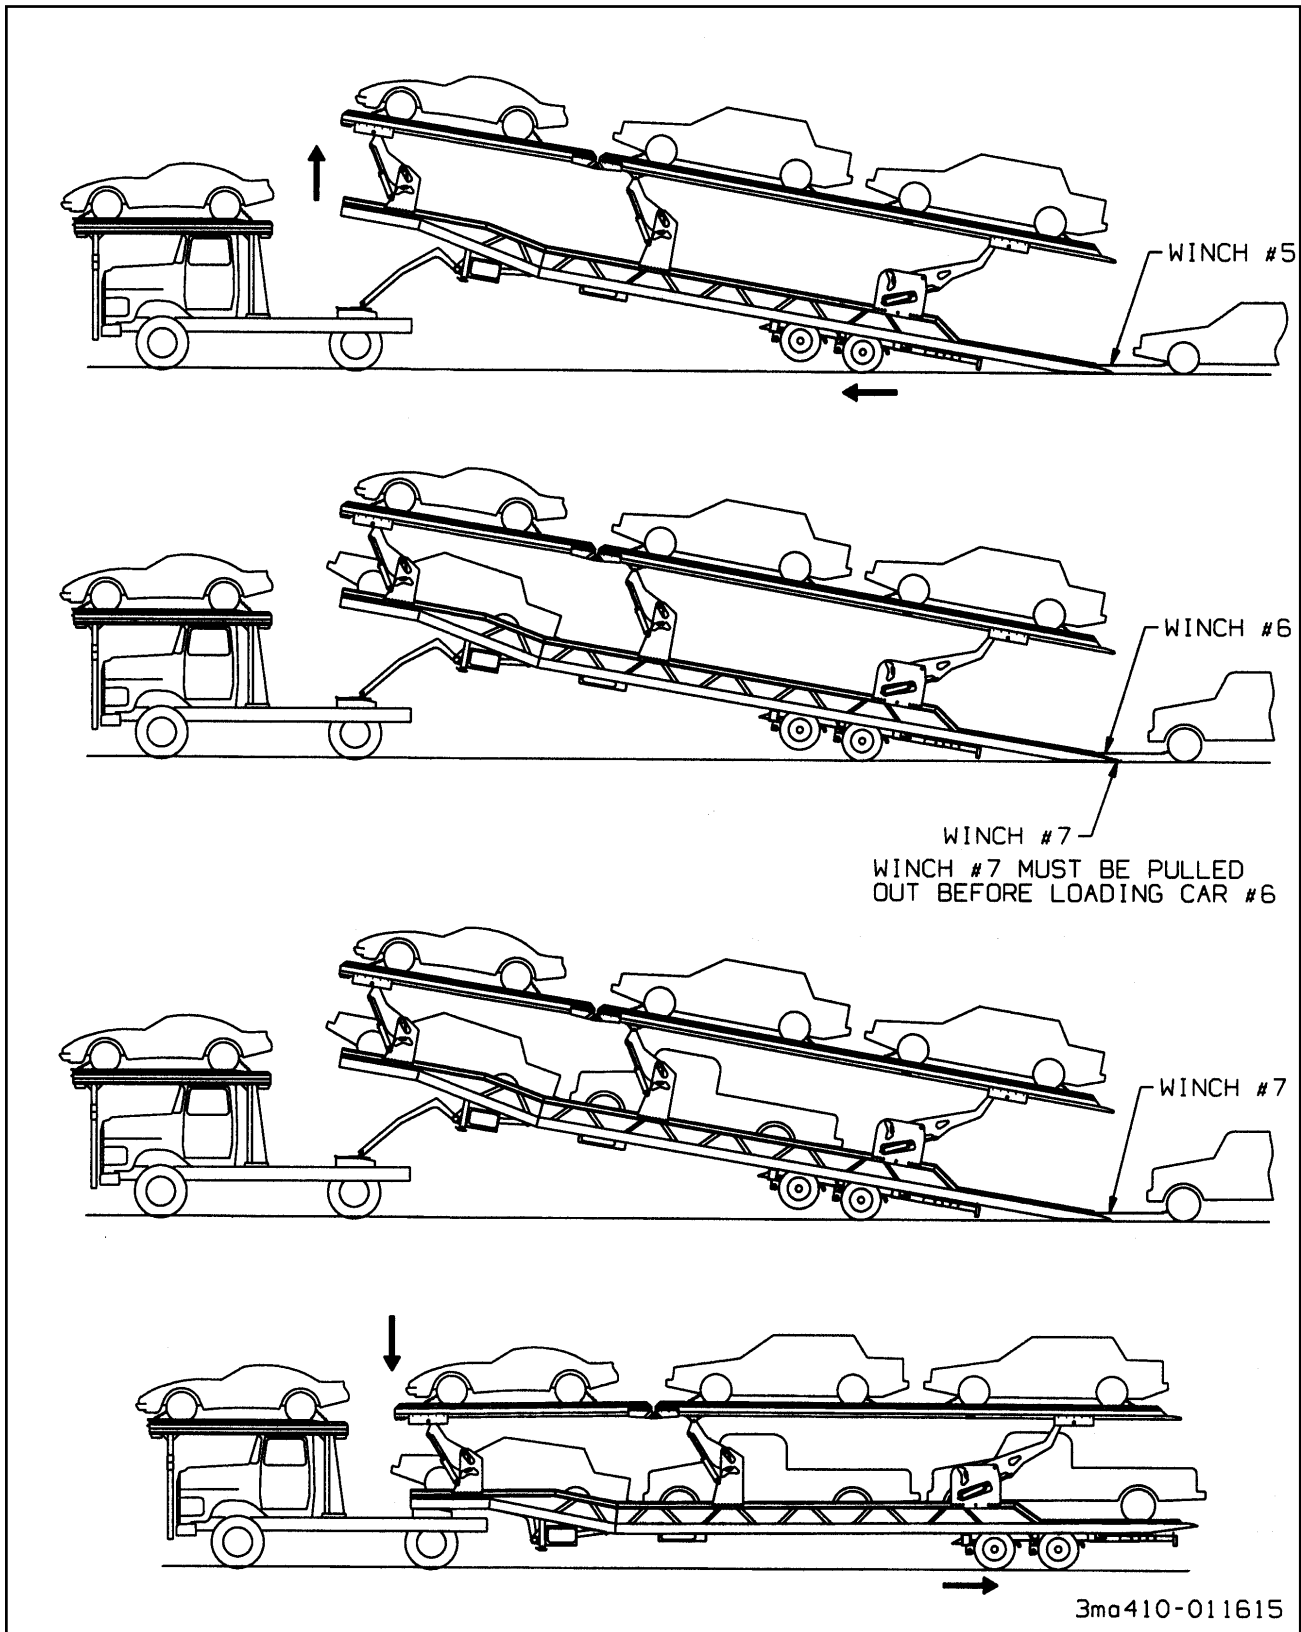

Figure 3-11 Loading the Lower Deck
- 3-16.1** Make sure there is adequate clearance between the upper and lower deck to load vehicles on the lower deck (See Figure 3-11).
- 3-16.8 Lower the arms; front first, then middle, then rear; to allow a minimum clearance of 1" above the vehicles on the lower deck (See Figure 3-11).